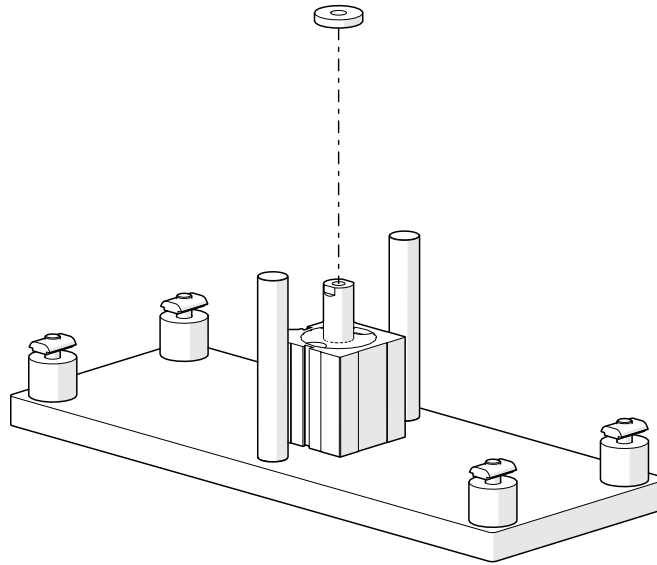

Figure 18: Reinstalling LLLU Top Plate Assembly and M8 SHCS
Step 4: Replacing P-00265 Air Cylinder (Figure 18)